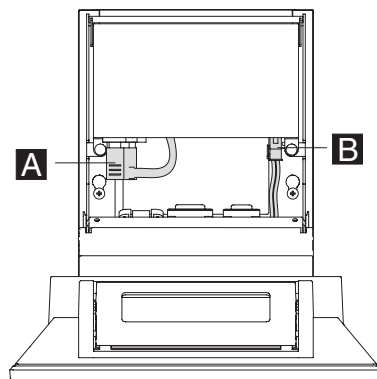

Figure 23. Location of power supply cords (top view of system)
9. Connect the power connector cable **B** to the power supply as shown in Figure 23.